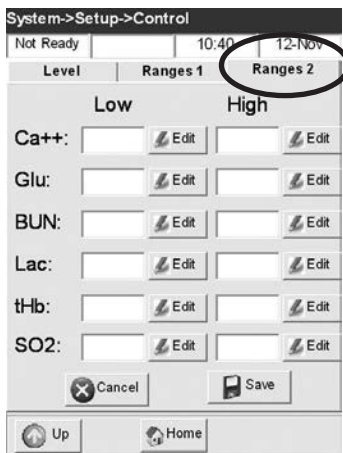

Fig. 3-12 Confirm Assay Ranges
7. Press **<Ranges 2>** to go to the next display to enter the ranges for all other measured parameters available with this control material (Fig. 3-12). Enter 0.0 for unassayed parameters.